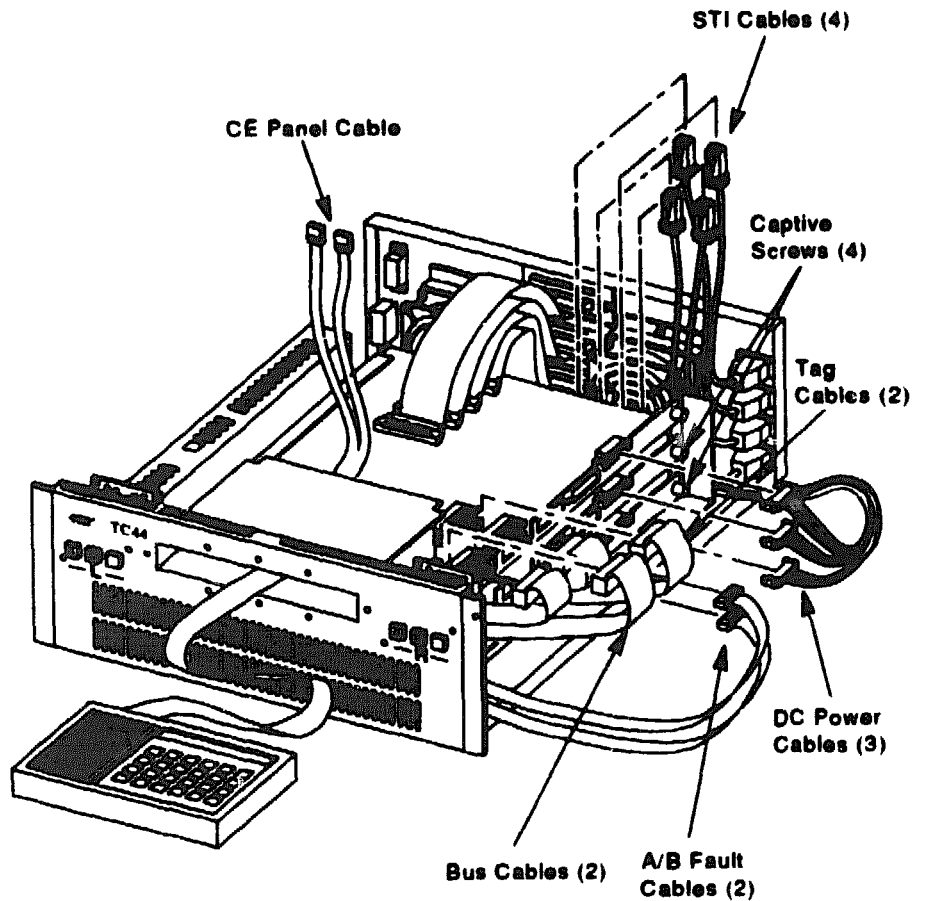

Figure 3-6 Replacing the TC44 Adapter Module
3. Disconnect the two tag and two bus ribbon cables (J1, J4, J6, and J7) from the FIPS converter board (Figure 3-6).